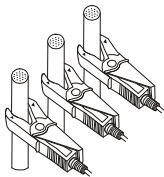

Figure-1
6.1.1.Connection: Clamp on three phase wires respectively with the three clamps (Shown in Figure-1).